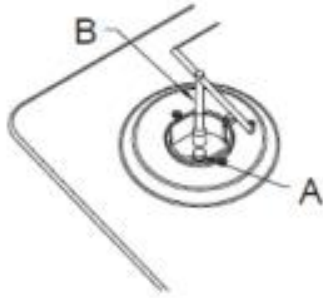

Abb. 6
- Replace the injectors with the corresponding injector from the table on page below (see Fig. 6). First, remove the burner caps and rings with a socket spanner "B", unscrew injector "A" (see Fig. 6).